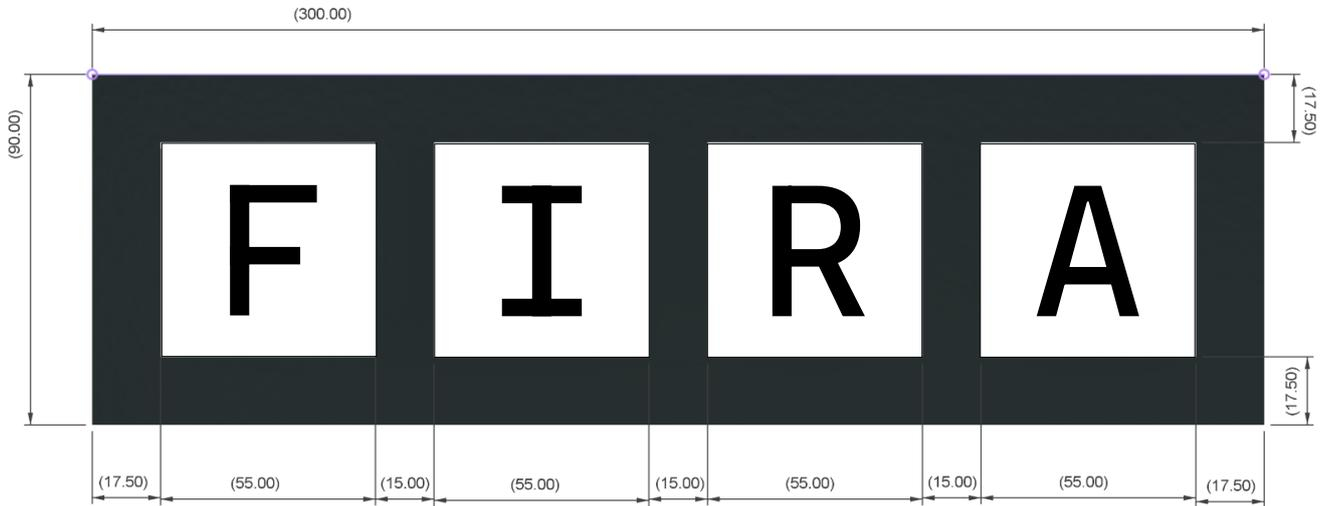

Figure 4. Dimensions of the Cargo Placement Area(Unit: mm)
- 5.15 As shown in Figure 4, the cargo placement area is marked with letters identical in font to those on the blocks, and each side of this marked target area is 5 mm larger than a block (i.e. 55 mm × 55 mm) to accommodate the block.